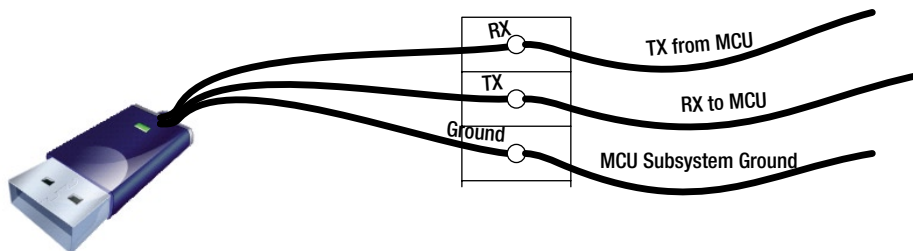

Figure 2-31. TTL level serial dongle to MCU connections
- TTL data send and receive wires that you CAN safely connect directly to your AVR's equivalents (TX to RX in each case) as in Figure 2-31.